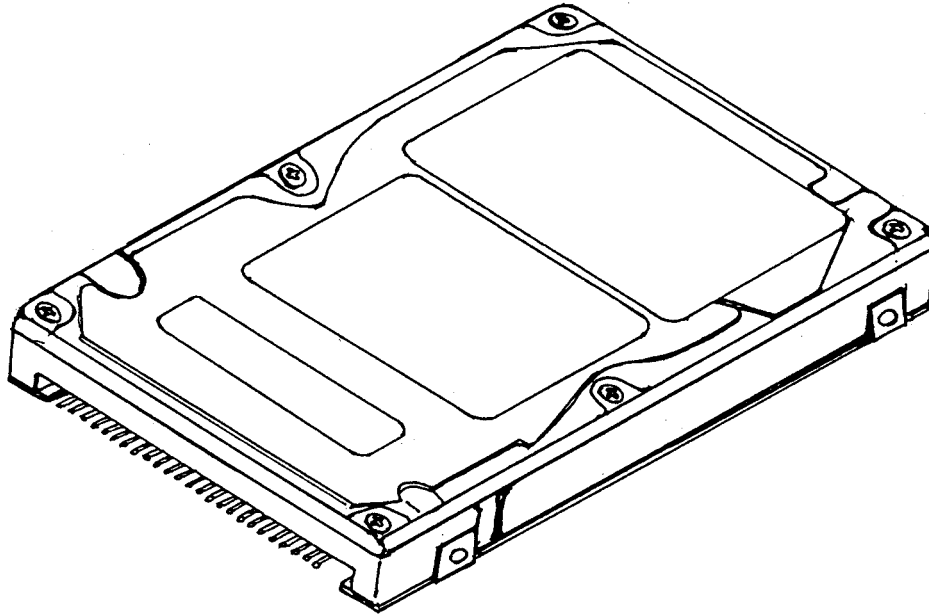

Figure 2.1 Disk drive overview
Figure 2.1 shows the disk drive. The disk drive consists of a disk enclosure (DE), read/write preamplifier, and controller PCA. The disk enclosure contains the disk media, heads, spindle motors, actuators, and a circulating air filter.